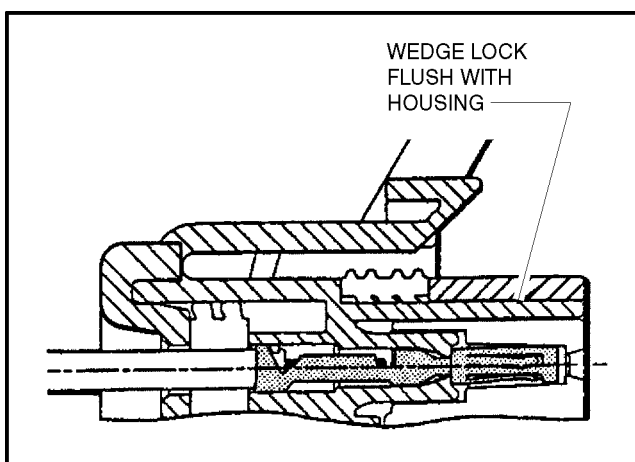

Figure 8-9. Connector Assembly (4 of 4)
4. Slide the wedge lock into the housing until it is flush with the housing (See Figure 8-9. Connector Assembly (4 of 4)).